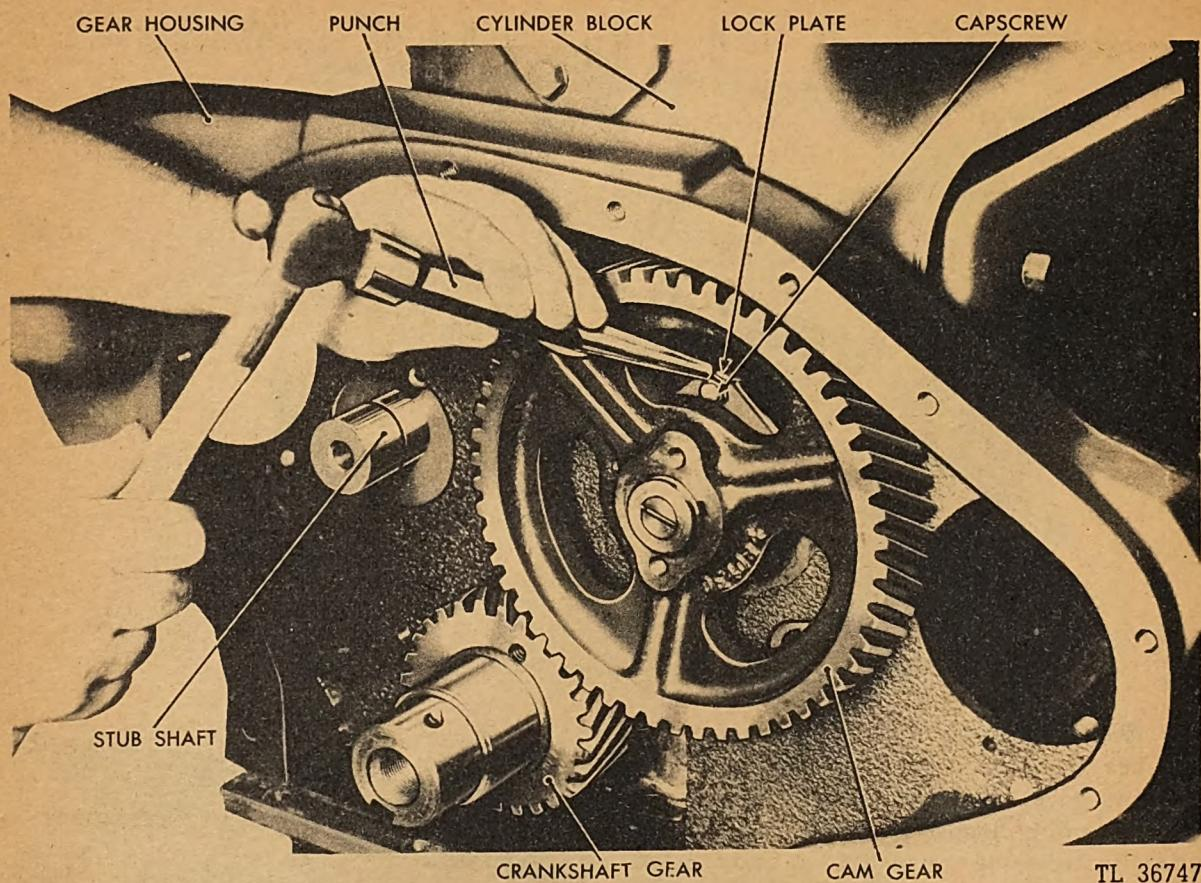

Fig. 95. Straightening Tabs on Cam Retaining Lock Plate
j. *Checking Camshaft Clearances. (Removal).* (1) Straighten the locking tabs on the camshaft retaining plate as shown in Figure 95. Unscrew the three retaining capscrews. An ordinary  $\frac{1}{16}$ -inch open-end wrench, bent close to the head, will unscrew these capscrews. Consult Figure 173.